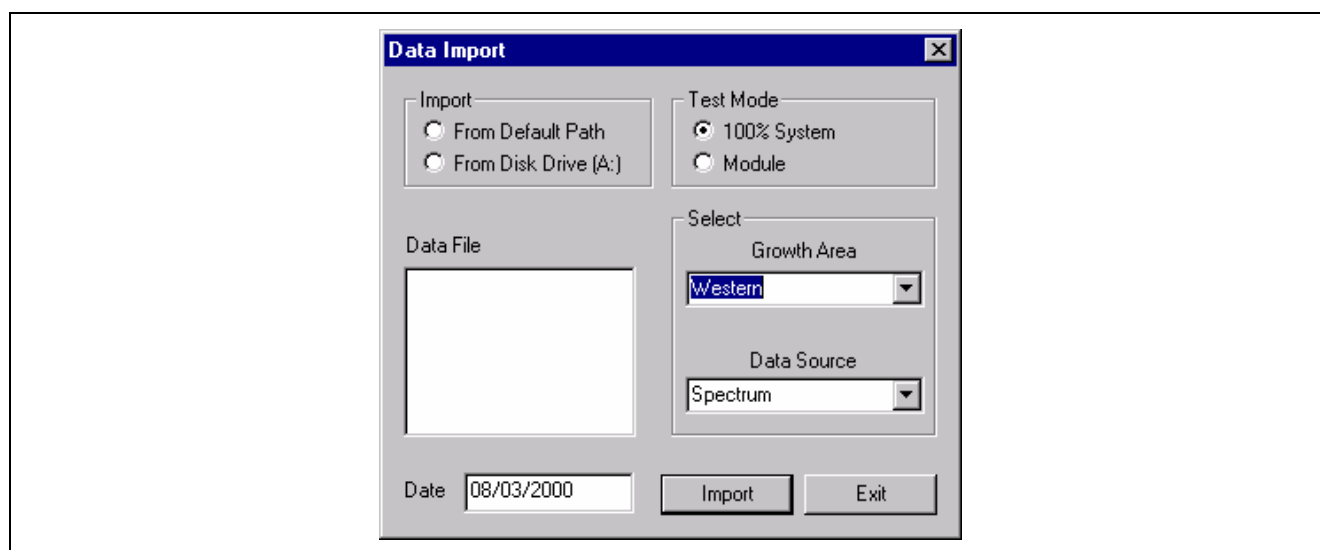

Fig. 6-72 Data Import, Screen 1
24.1 The Data Import window will appear (Fig. 6-72).